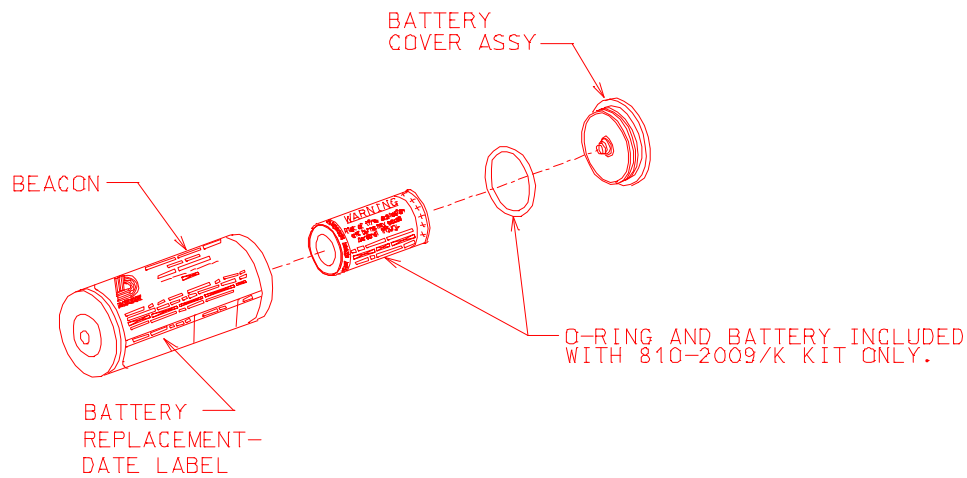

Figure 4. Beacon Exploded View Showing Relative Location of Battery and Related Parts
G. Install new battery. Be sure the end marked "INSERT THIS END FIRST " goes in first. See Figure 4. Contact Dukane Corporation, Seacom Division at (630) 584-2300, Ext. 860 for replacement 810-2009/K battery kits.